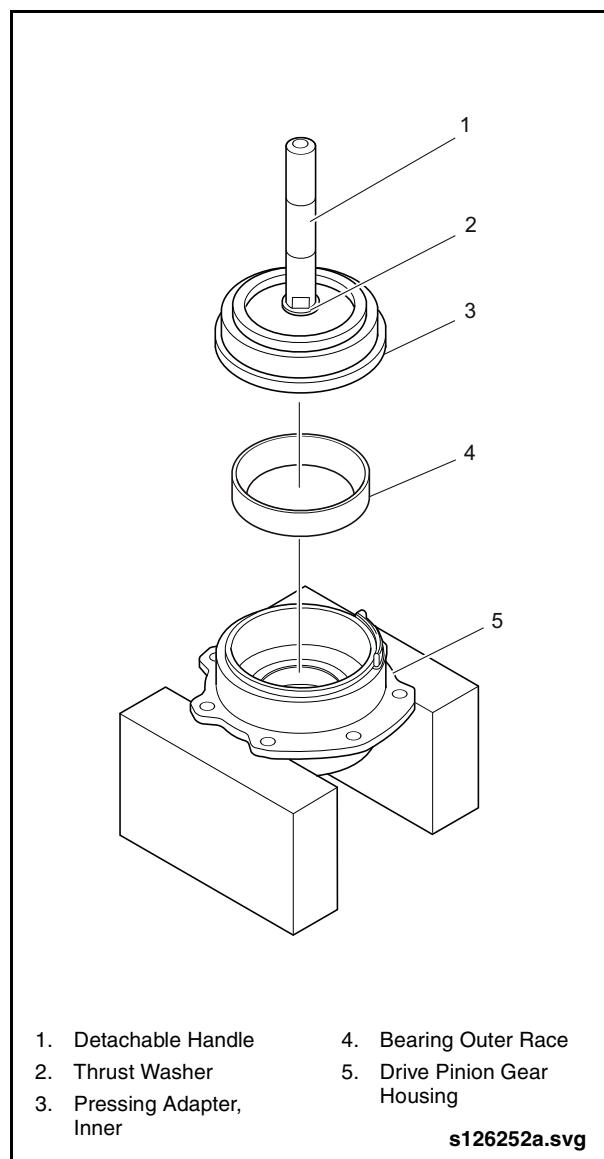

Fig. 2-96: Installing Inner Bearing Outer Race
2. Assemble the Inner Pressing Adapter with the Detachable Handle and Thrust Washer (Items 94, 33 & 15 from Special Tools List). See “Fig. 2-96: Installing Inner Bearing Outer Race” on page 78.